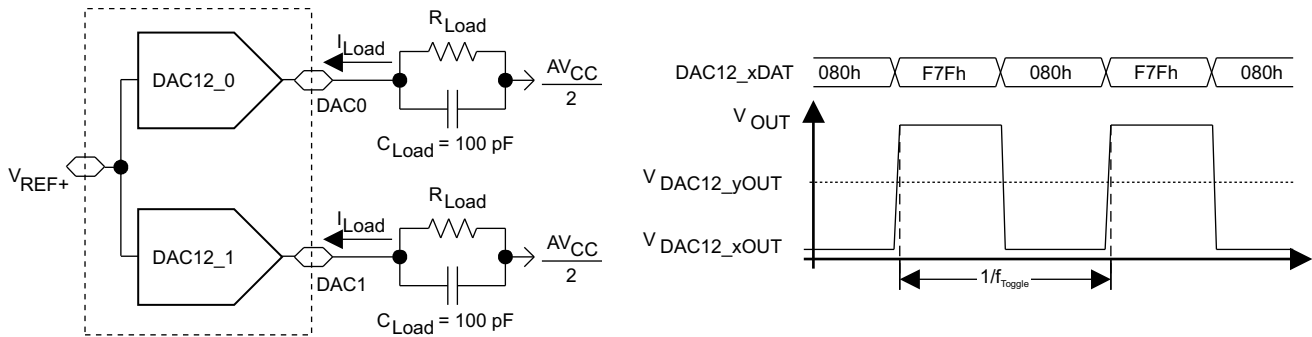

Figure 5-33. Crosstalk Test Conditions
| Channel-to-channelcrosstalk(see Figure 5-33) (1)                                           | DAC12_0DAT = 800h, No Load,DAC12_1DAT = 80h↔F7Fh, $R_{Load} = 3\text{ k}\Omega$$f_{DAC12\_1OUT} = 10\text{ kHz}$ at 50/50 duty cycle   | 2.2 V, 3 V |     | –80 |     | dB   |